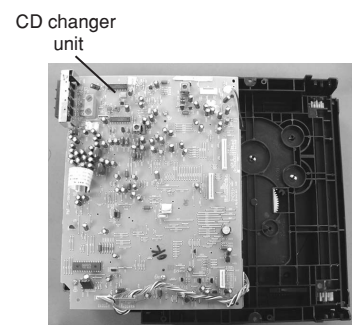
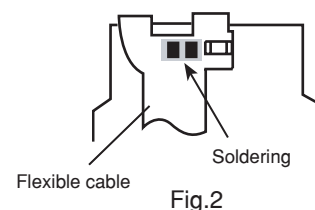

Fig.1
Fig.2
3. Solder is put up before the card wire is removed from connector Cn601 on the main board as shown in Fig.1 and Fig. 2. (When the wire is removed without putting up solder, the CD pick-up assembly might destroy.)